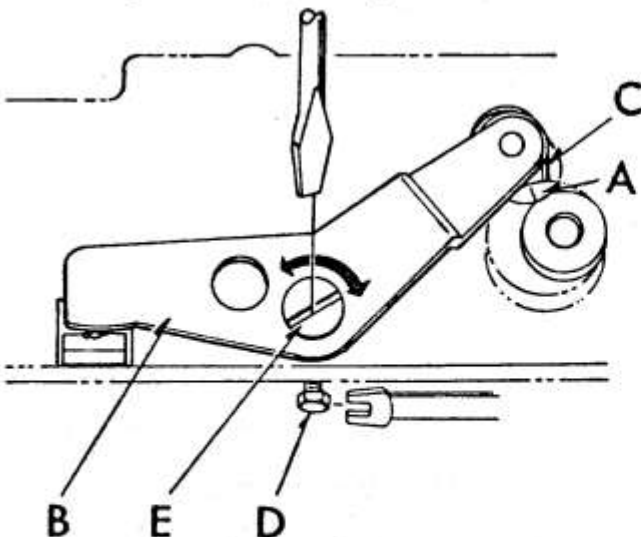

FIGURE 1
- Turning handwheel, align center of roller (C) on feed lifting link (B) with indicator line on feed lifting cam (A) (Figure 1).
- Loosen screw (D) slightly.